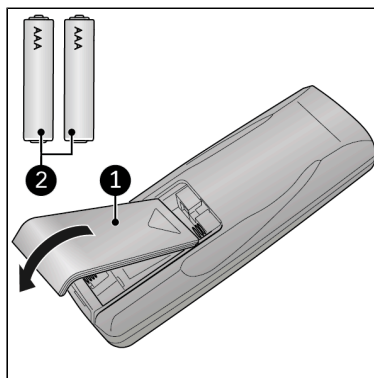

Figure 35.
1. Remove the cover (Figure 35, pos. 1).
3. Insert two batteries (AAA 1.5V) (Figure 35, pos. 2) in the battery compartment as indicated. Make sure to insert the batteries correctly.